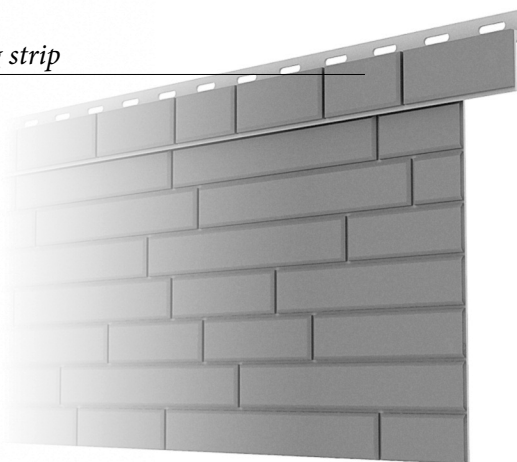

fig. 14
5. The final element of facade panels fixing is a facing strip, which is simply laid over the panel and fastened to firring with nails or screws through junction slots (Fig. 14).